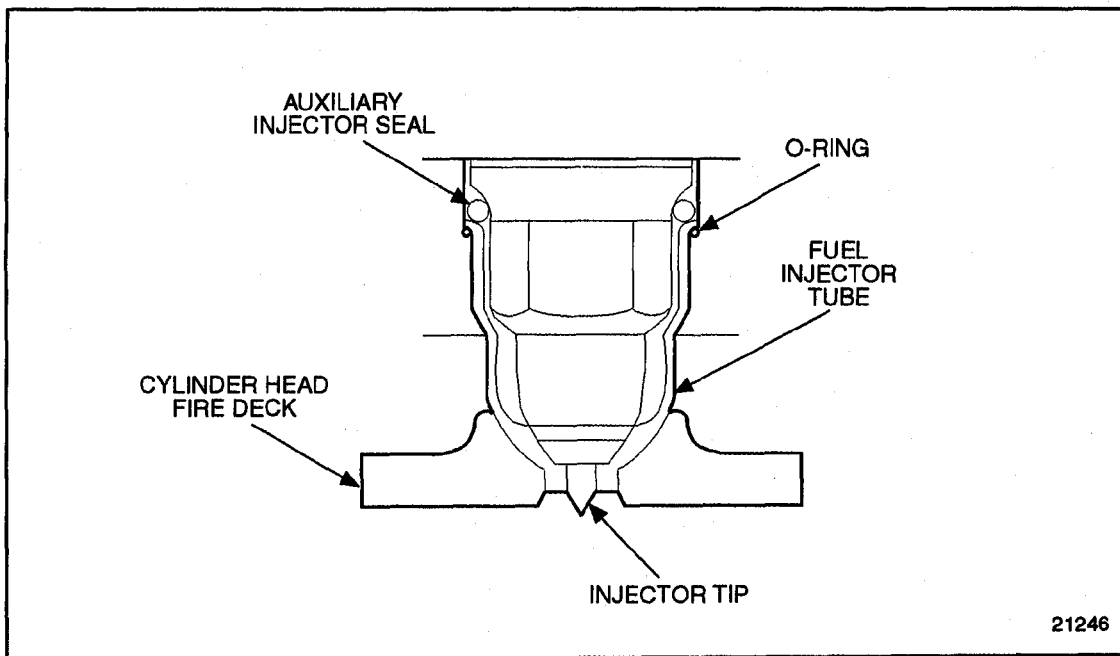

Figure 2-15 Auxiliary Injector Seal Location
2. Seat it against the top of the injector tube with a 1-5/8 in. diameter wood or plastic dowel. See Figure 2-15.